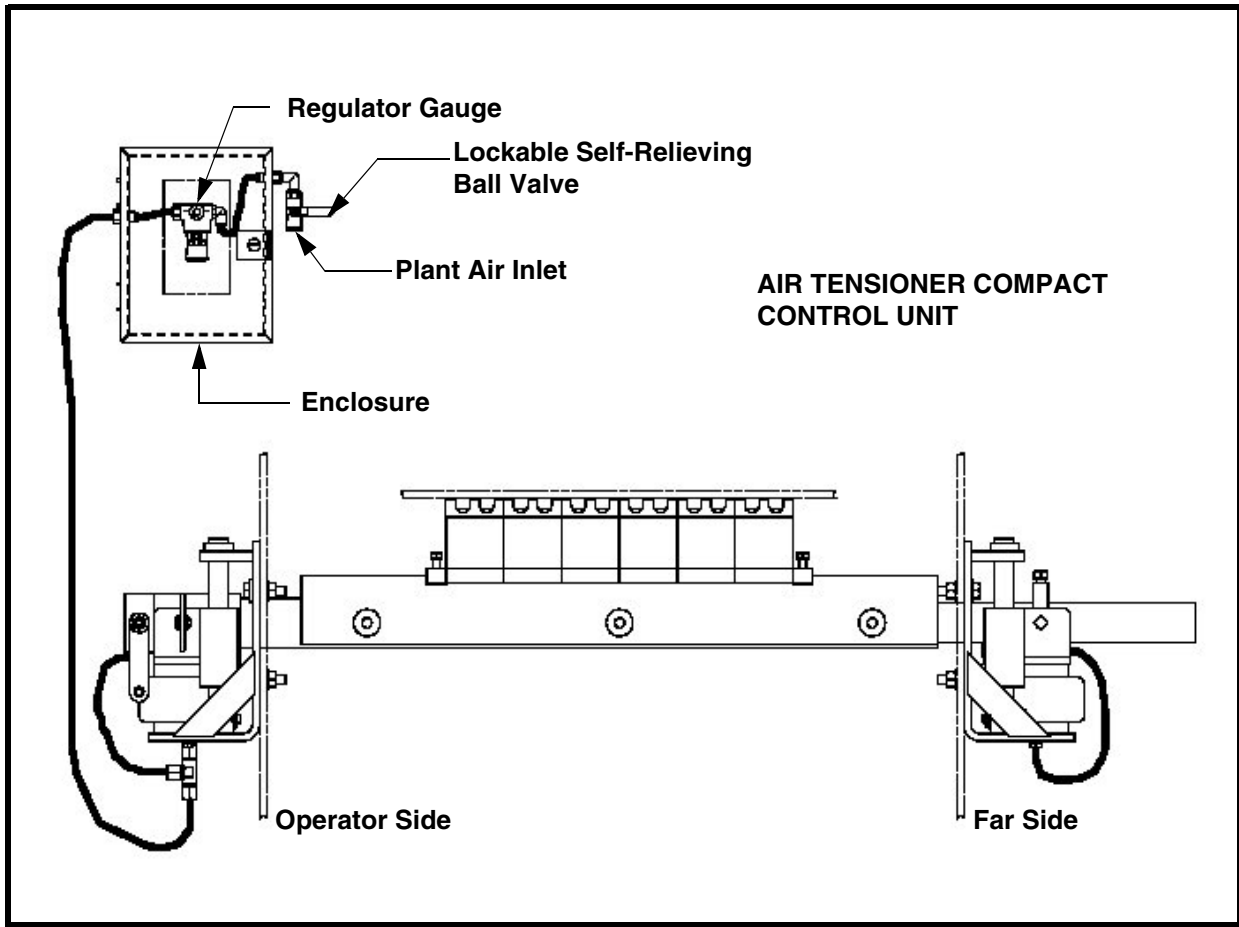

Figure 5. Air Tensioner Operation
12. For the air-tensioned model only, connect the air tube to the fittings in the far side airbag on the underside of the mount bracket. See Figure 5.
The air tensioner utilizes an inflatable air bag on each cleaner mount to provide the force to adjust the blades against the belt. Cleaner adjustments and correct force are automatically applied by simple air pressure control. See Figure 5.